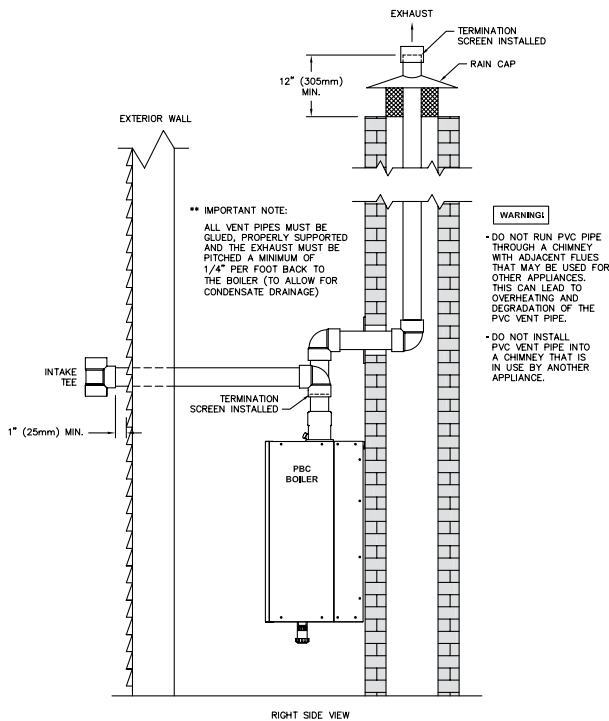

Figure 3.12: Venting Through a Chimney Using Sidewall Outside Air
- f. Figure 3.12 shows this option using inlet air from a sidewall position.